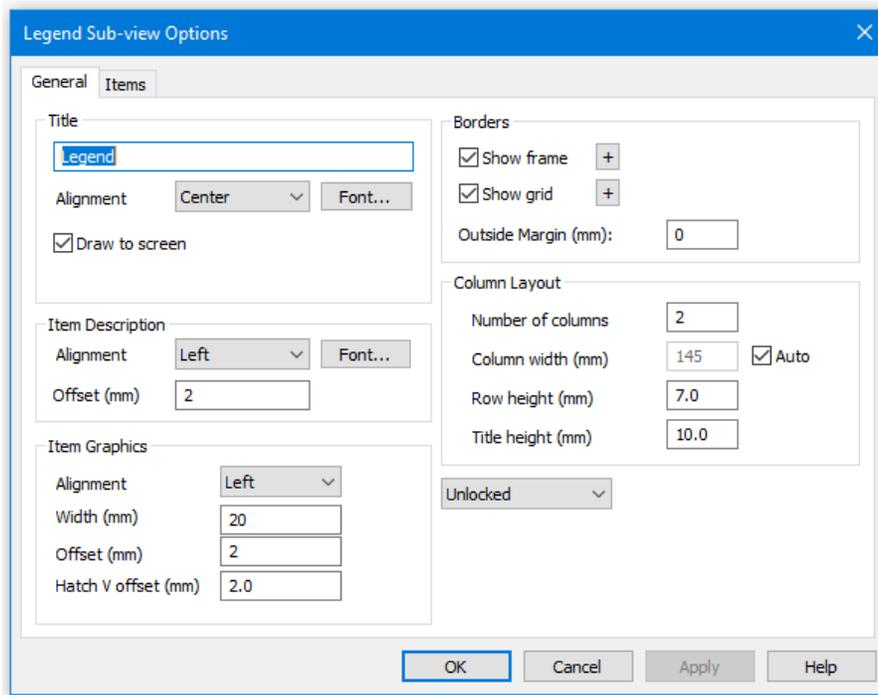

Figure 3-31: Legend Sub-View Options Dialogue
10. Ensure the Legend Sub-view Options dialogue box matches the Figure 3-31.